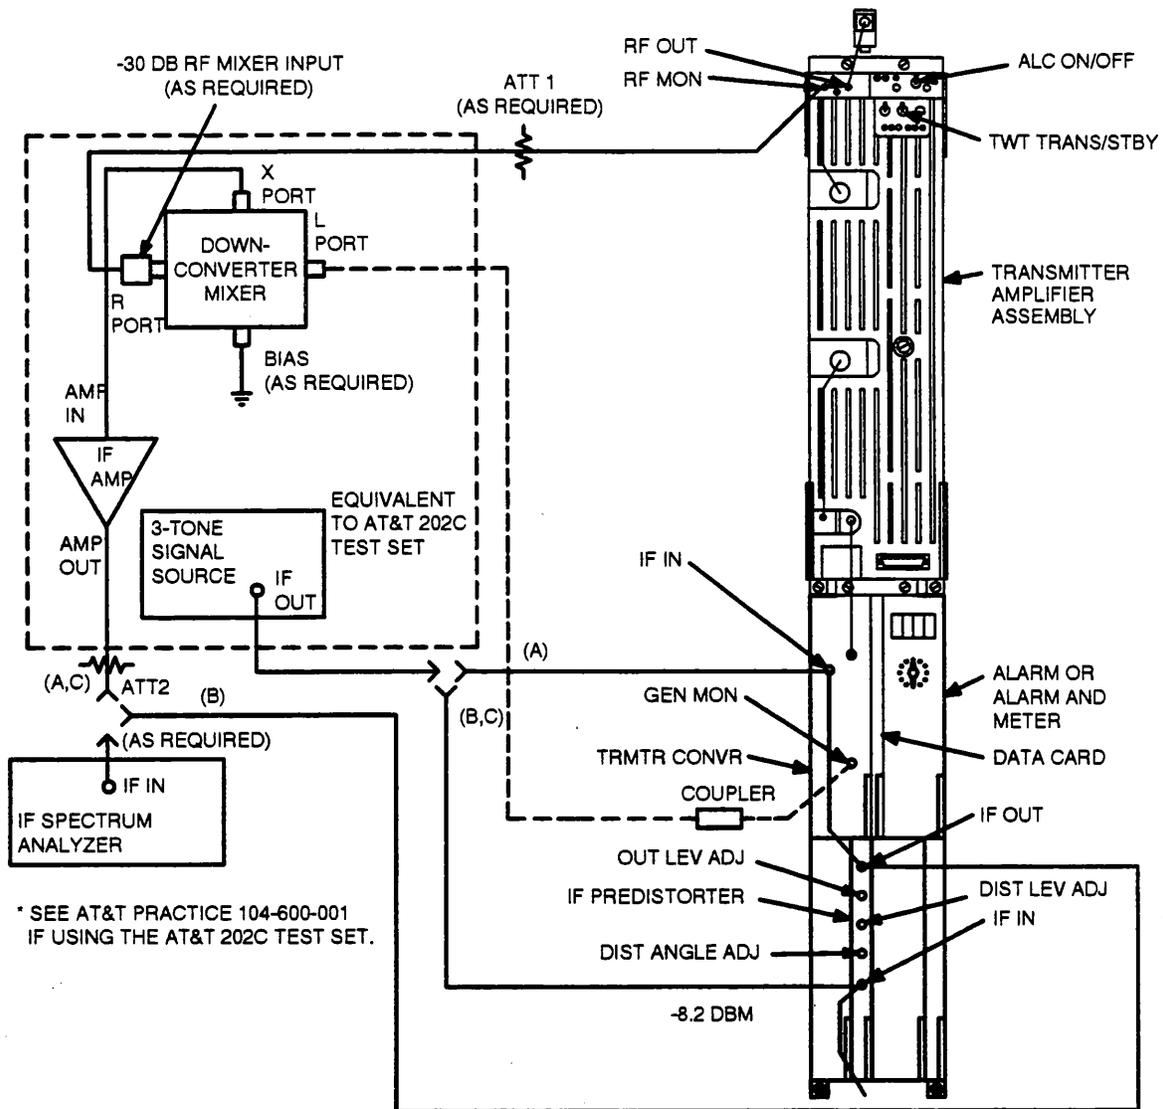

Figure 16-TWT Transmitter Linearity Test Connections With IF Spectrum Analyzer
- Refer to Figure 16.
6. Connect the test equipment per Figure 16, Option A.
17. Connect the test equipment per Figure 16, Option B.
20. Connect the test equipment as shown in Figure 16, Option C.